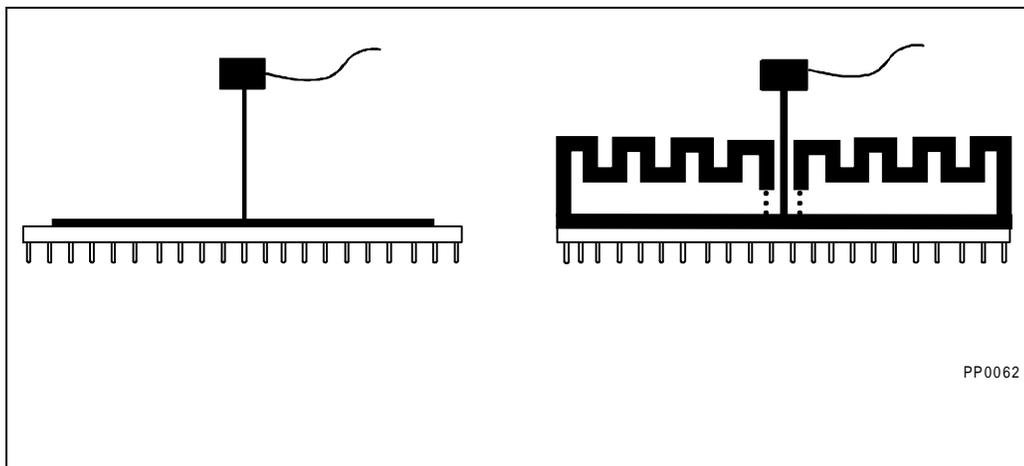

Figure 26-1. Technique for Measuring T_C
The Pentium processor (735\90, 815\100) package will include a heat spreader. To verify that the proper T_C (case temperature) is maintained, it should be measured at the center of the package top surface on the heat spreader (opposite of the pins). The measurement is made in the same way with or without a heat sink attached. When a heat sink is attached a hole (smaller than .150" diameter) should be drilled through the heat sink to allow probing the center of the package. See Figure 26-1 for an illustration of how to measure T_C .
- The thermocouple should be attached at a 90-degree angle as shown in Figure 26-1.